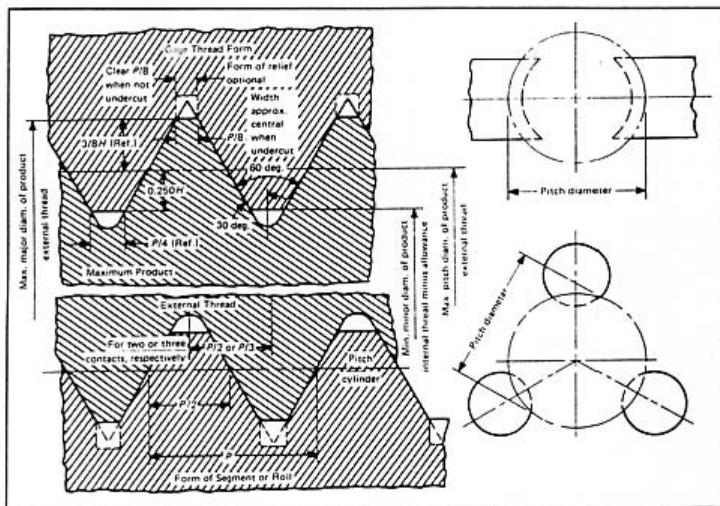

Figure 1.
- Pitch Diameter: On a straight thread the pitch diameter is the diameter of the pitch cylinder. The pitch cylinder is an imaginary cylinder of such a diameter and location of its axis that its surface would pass through a straight thread in such a manner as to make the widths of the thread ridge and the thread groove equal. See Figure 1.